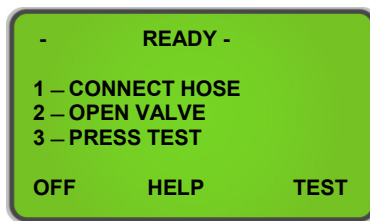
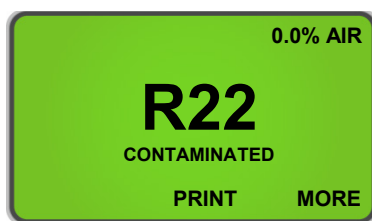
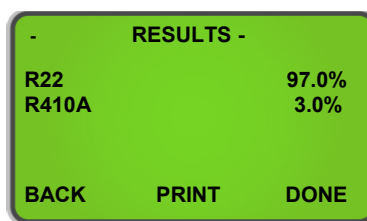

Figure 7
Figure 9
Figure 10
When the unit has completed a successful Air Calibration, the analyzer is then ready for gas testing. The unit will display the screen shown in **(Figure 7)**. Determine if you are Vapor Sampling or Liquid Sampling and make sure the proper hose assembly is connected to complete your required form of testing. Section **2.4 Vapor Sampling** and **2.5 Liquid Sampling** outline proper procedure for both forms of testing.
- 2) Open the low side valve of the cylinder and press 'TEST' **(Figure 7)**.
- 5) Press 'TEST' on the Analyzer (**Figure 7**).
Upon completion of the test, the Ultima ID Pro™ will display a screen similar to that shown in (**Figure 9**). Pressing the 'MORE' button will display the screen shown in (**Figure 10**). Once you have completed your test, press 'DONE' to return back to the 'READY' screen (**Figure 7**) or refer to section **2.10 Print the Test Results & Channel Data to print**.